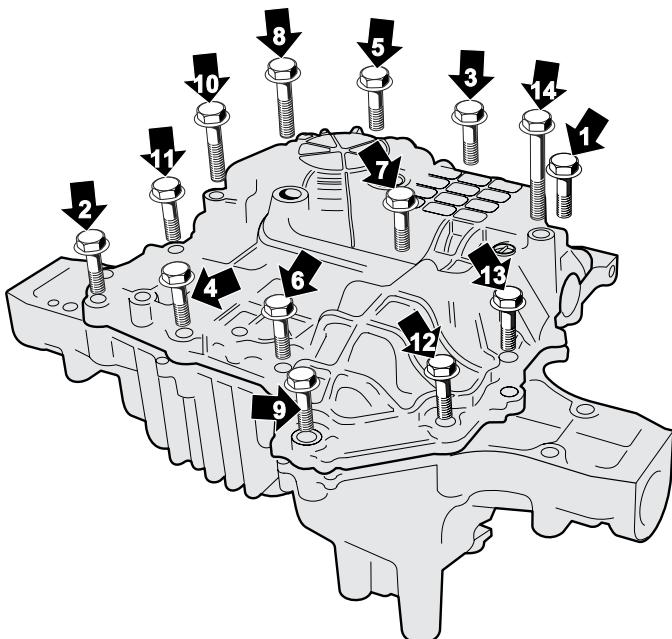

Fig. 46, Torque Sequence for Upper & Lower Case
4. Install (1) M8x75 Bolt (**arrow 14**), (2) M8x40 Bolts (**arrows 8 & 10**) and (11) M8x30 Bolts (**arrows 1-13**) to Lower Case/Upper Case. (Fig. 46)
5. Torque Bolts (12 mm wrench) utilizing the tightening sequence diagram. (Fig. 46)